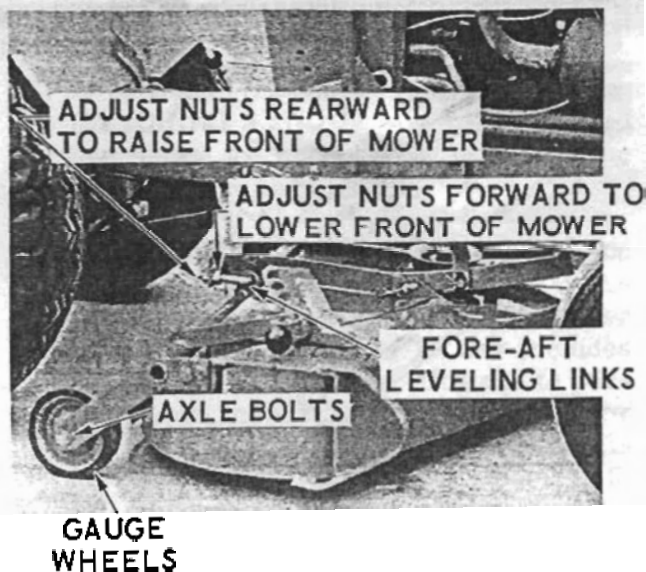

Figure 9.
6. Mower Fore-Aft Leveling Links: See Figure 9
7. Mower Gauge Wheels: See Figure 9